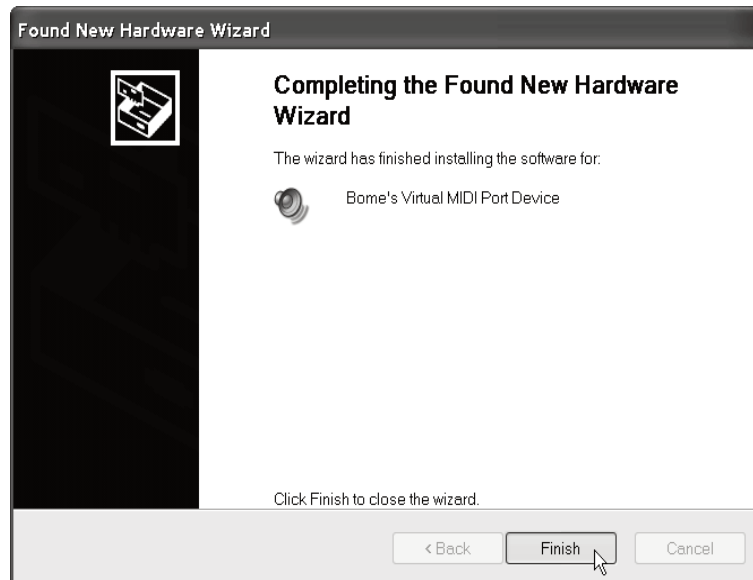

Figure 4.13
13. Click **Finish** to complete the Bome's Virtual MIDI Port device. (Figure 4.13)